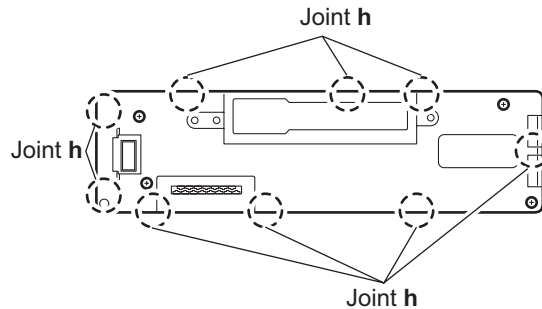

Fig.12
- (2) Release the nine joints **h**, the front panel and the rear cover become separate. (See Fig.12)